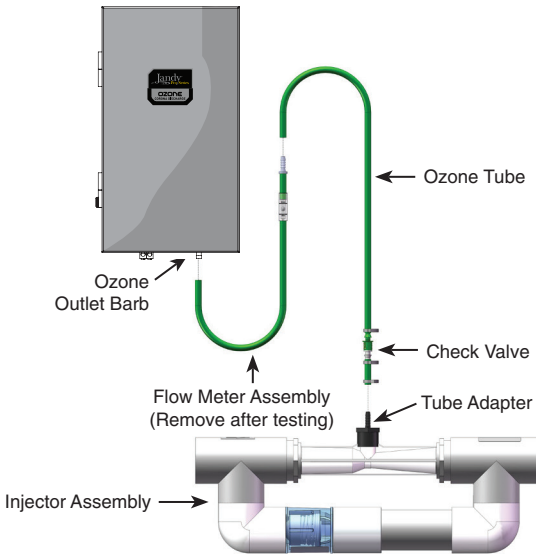

Figure 9. Ozone Flow Test Assembly
2. Connect the shorter piece of ozone tubing (with gas line check valve) onto the tube adapter (Figure 9) and secure with the tube clamp provided.
3. Connect the longer piece of the flow meter assembly to the ozone outlet barb at the bottom of the ozone generator (Figure 9).
4. Connect the remaining ends of the ozone tube and the flow meter assembly (Figure 9).